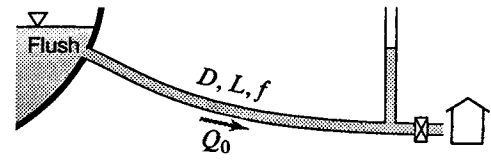

Figure P12.39
12.39 A 1.5-m-diameter steel pipeline 1000 m long (flush inlet, $f = 0.020$) carries water at Q_0 (m^3/s) from a reservoir to a power plant (fig. P12.39). When the valve at the outlet end is closed instantaneously, water rises in the 2.5-m-diameter simple surge tank immediately adjacent to the valve. Determine the maximum allowable initial discharge Q_0 so that the resulting surge will not rise more than 12 m above the reservoir surface. In the surge tank only, neglect the velocity head, minor losses, fluid friction, and inertial effects.